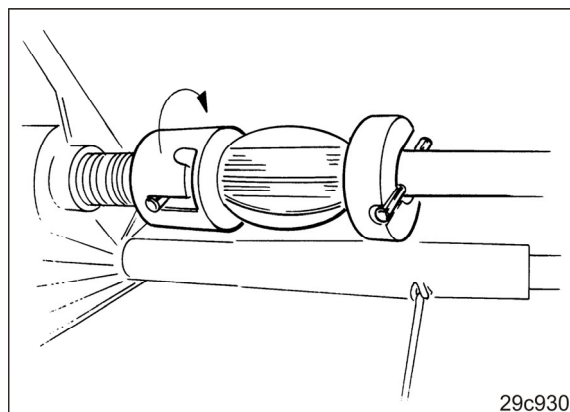

Fig. 210
1. Switch on the left side of the seeding shaft (Fig. 210)